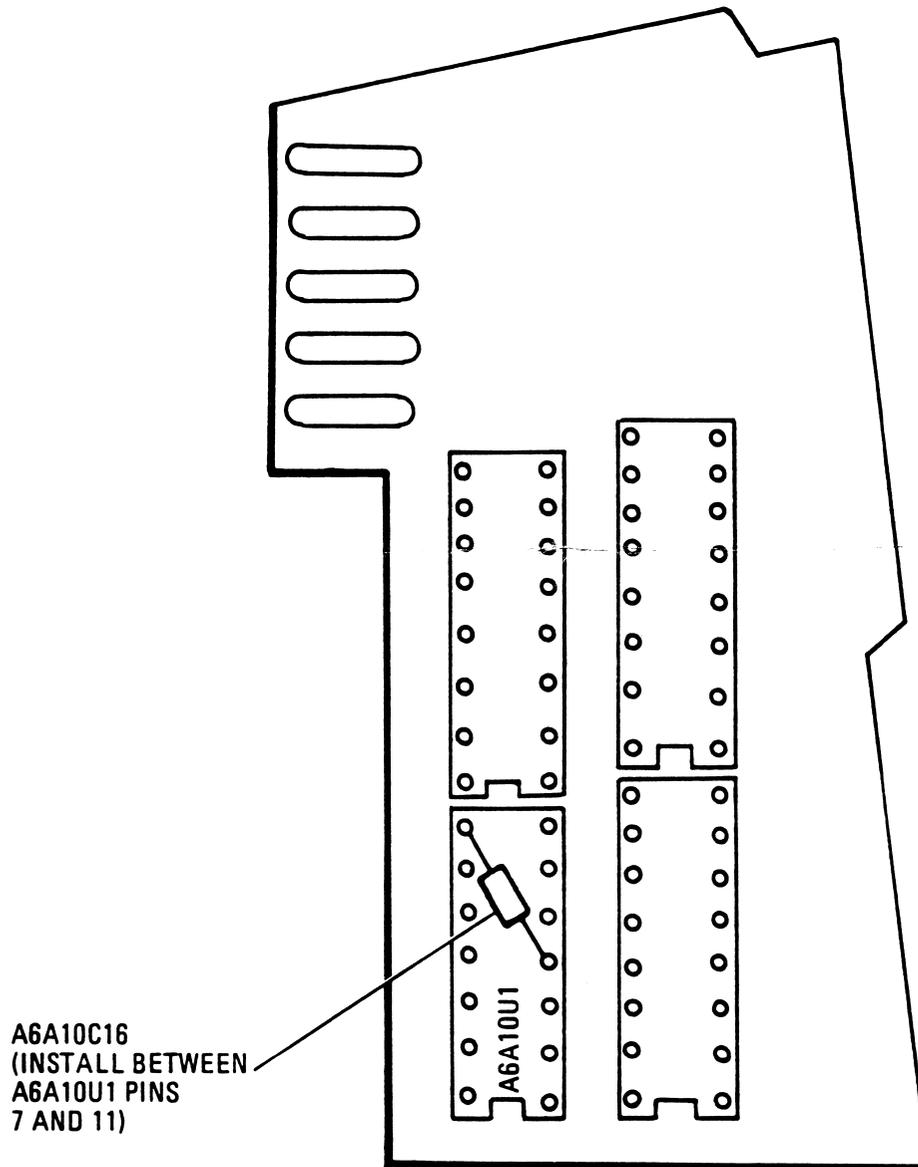

Figure 12. Proper Installation of A6A10C16, Partial Component Locations - Trace Side
- n. Carefully remove solder from around pins 7 and 11 of A6A10U1 (HP Part Number 1820-1538, IC GATE CMOS NAND QUAD 2-INP). As shown in Figure 12, clip and dress leads of capacitor A6A10C16 supplied in Retrofit Kit (HP Part Number 0160-3878, CAPACITOR-FXD .001 uF 100 VDC CER) and install between pins 7 and 11 of A6A10U1. Make sure that capacitor lies flat against board and does not short other signal traces.